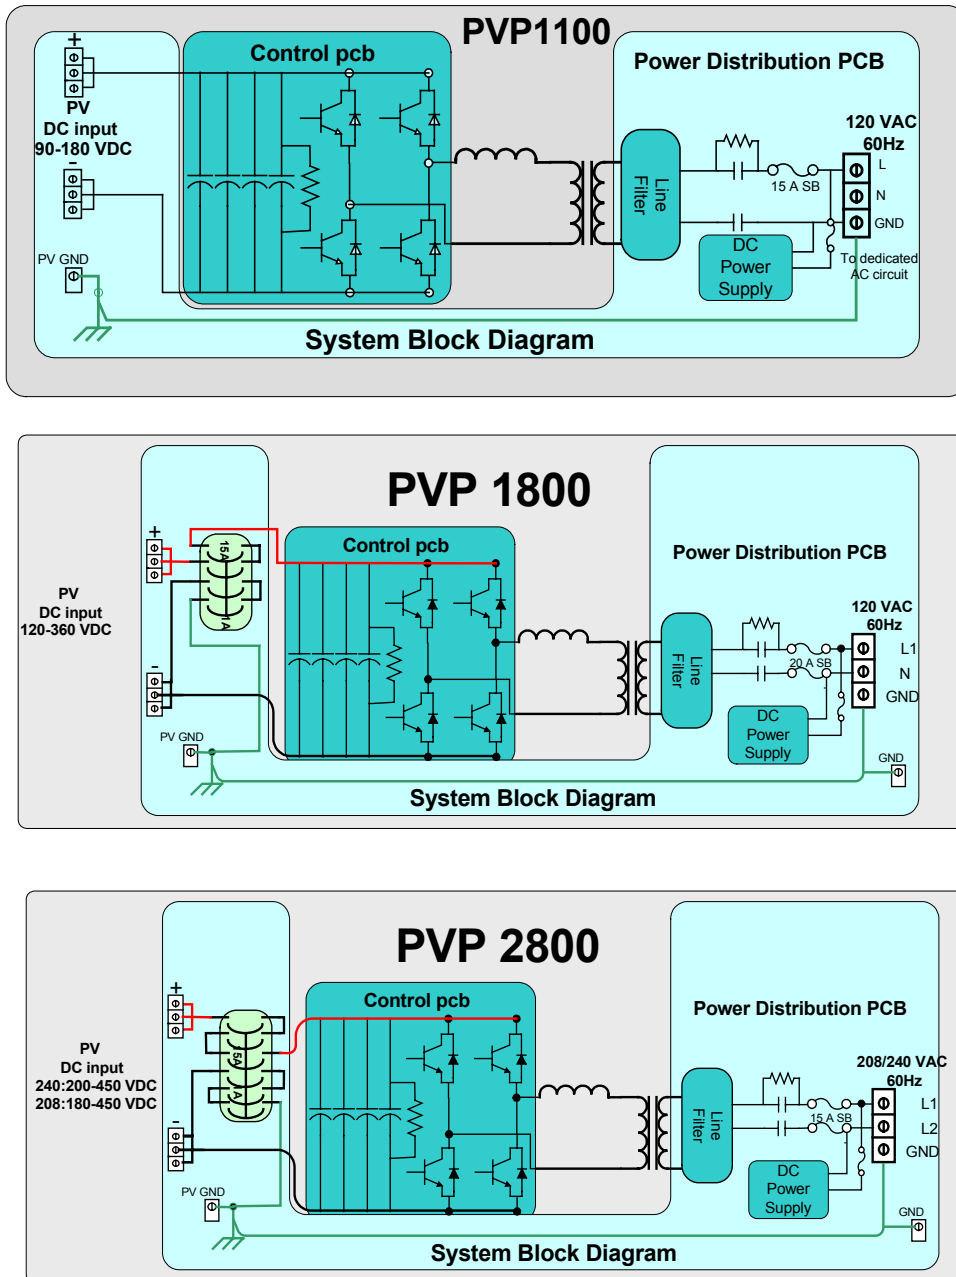

Figure 11: System Block Diagram showing single point ground point
- ◆ Figure 11 includes schematic representations of the PVP1100, PVP1800, and PVP2800 single point grounding. The front cover is grounded through the two cover mounting screws.